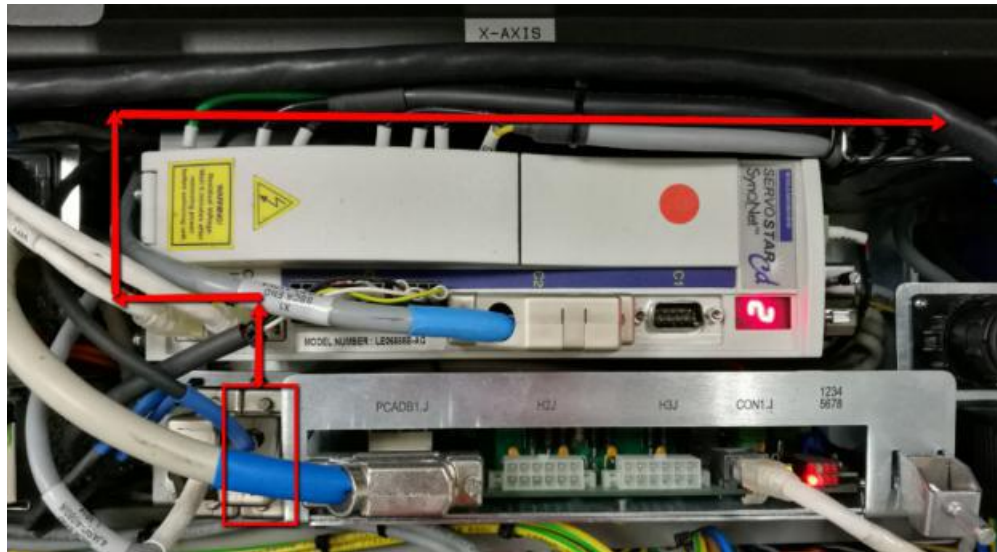

Figure 6
6. Loosen 3 x screws and remove the lead cover as shown in Figure 6.
9. Remove X-Axis encoder cable from SSCA by following cable routing as shown in Figure 6 & 7.